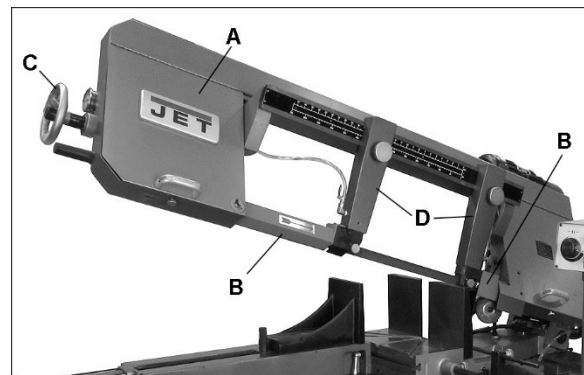
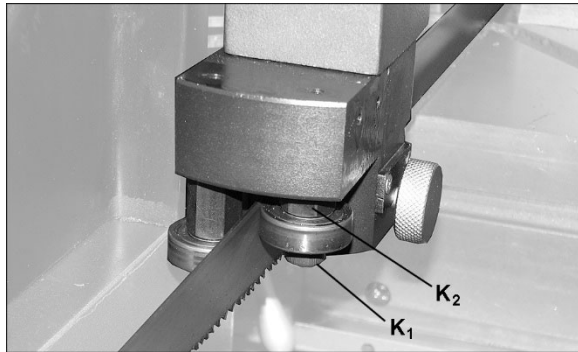

Figure 7-1: blade changing
Figure 7-2: blade guide bearing adjustment
Refer to Figure 7-1.
3. Open both wheel covers (A, Figure 7-1) and clean out any swarf from wheel areas.
4. Remove red blade guards (B).
5. Back off the blade guides by loosening knob (H, Figure 7-2). Back off the wire chip brush.
6. Release blade tension by turning blade tension handwheel (C) counter-clockwise.
9. Position new blade around wheels and through upper slot. Slide it into blade guide bearings with back edge of blade contacting backup bearing. (see Figure 7-2). For further guide bearing adjustment, see *sect. 7.3*
10. Lightly increase tension (C) and position blade so it rests against shoulder of both wheels.
12. Reinstall blade guards (B).
The blade guide posts (D, Figure 7-1) must be set to just clear the workpiece, but should not interfere with workpiece or other saw components during bow's descent.
Refer to Figures 7-2 and 7-3.
2. To adjust eccentric bearings, loosen hex socket cap screw (K₁, Figure 7-2) about one full turn.